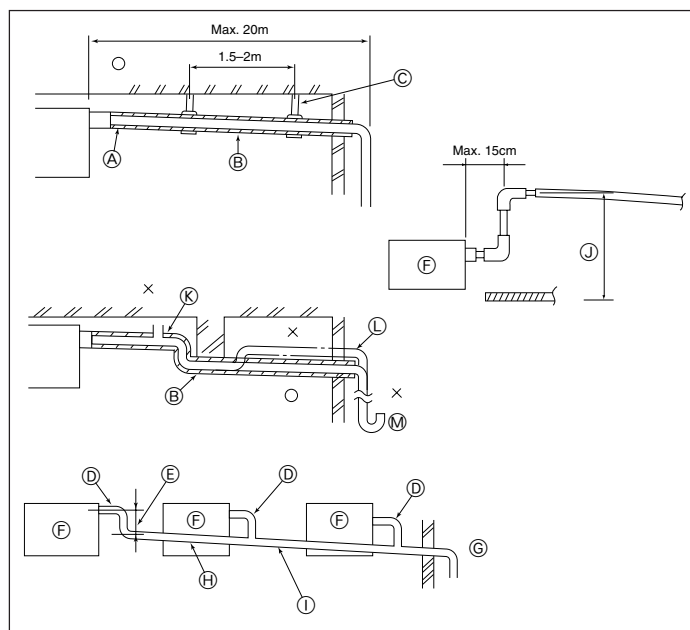

Fig. 3-4
3.4. Drainage piping work (Fig. 3-4)
- ① Correct piping
- ② Wrong piping
- ③ Insulation (9 mm or more)
- ④ Downward slope (1/100 or more)
- ⑤ Support metal
- ⑥ Air bleeder